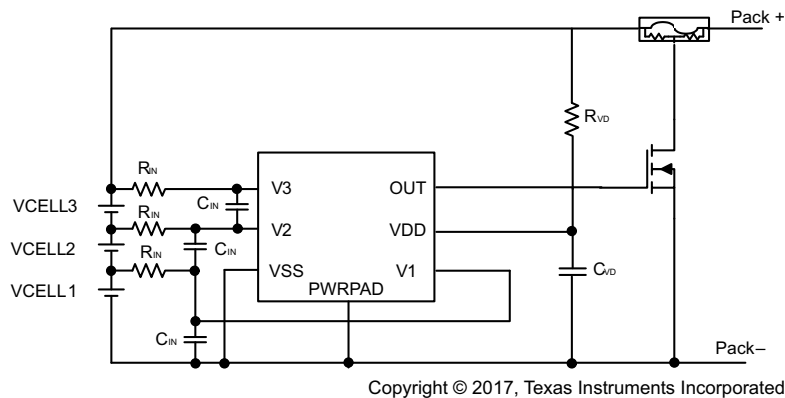

Figure 9. Application Configuration Schematic
Changes to the ranges stated in Table 1 will impact the accuracy of the cell measurements. Figure 9 shows each external component.
- Follow the application configuration schematic (see Figure 9) to connect the device.